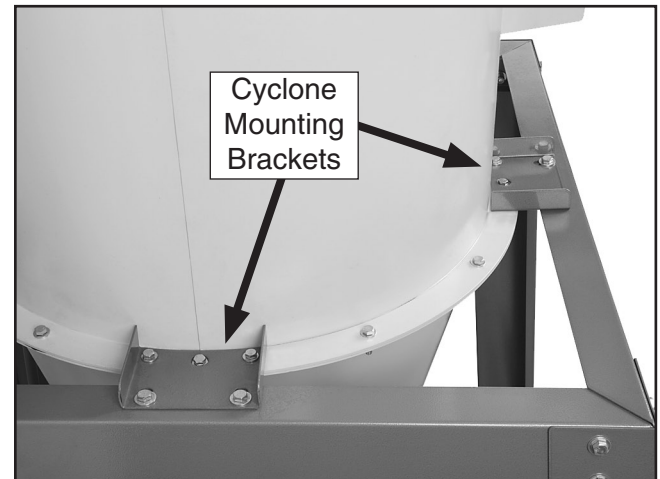

Figure 23. Mounting blower/intake assembly to upper stand.
1. Lower the blower/intake assembly into the upper stand assembly so that the cyclone mounting brackets align with the mounting holes of the upper stand braces (see **Figure 23**).